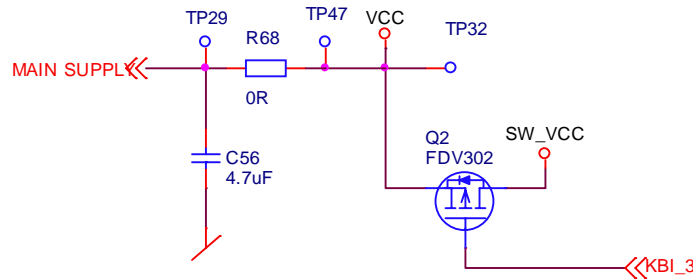

Figure 3-11. Switched VCC for Peripheral Devices
Figure 3-11 shows the switched VCC circuit.
- Total current to the board - reference Figure 3-11. R68 can be removed and current can be measured between TP29 and TP47.